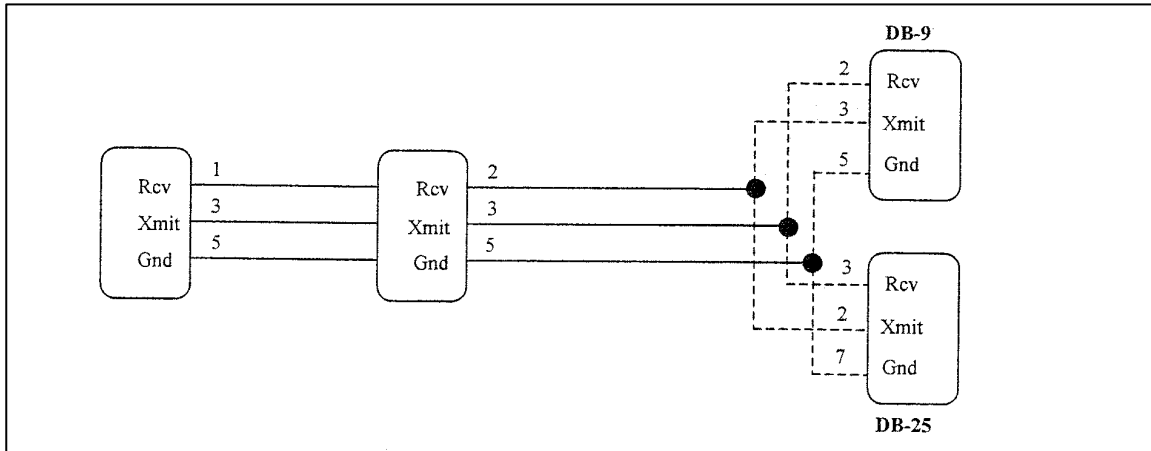

Figure 47. RS232 Wiring.
- RS232 Wiring Diagram (Figure 47)